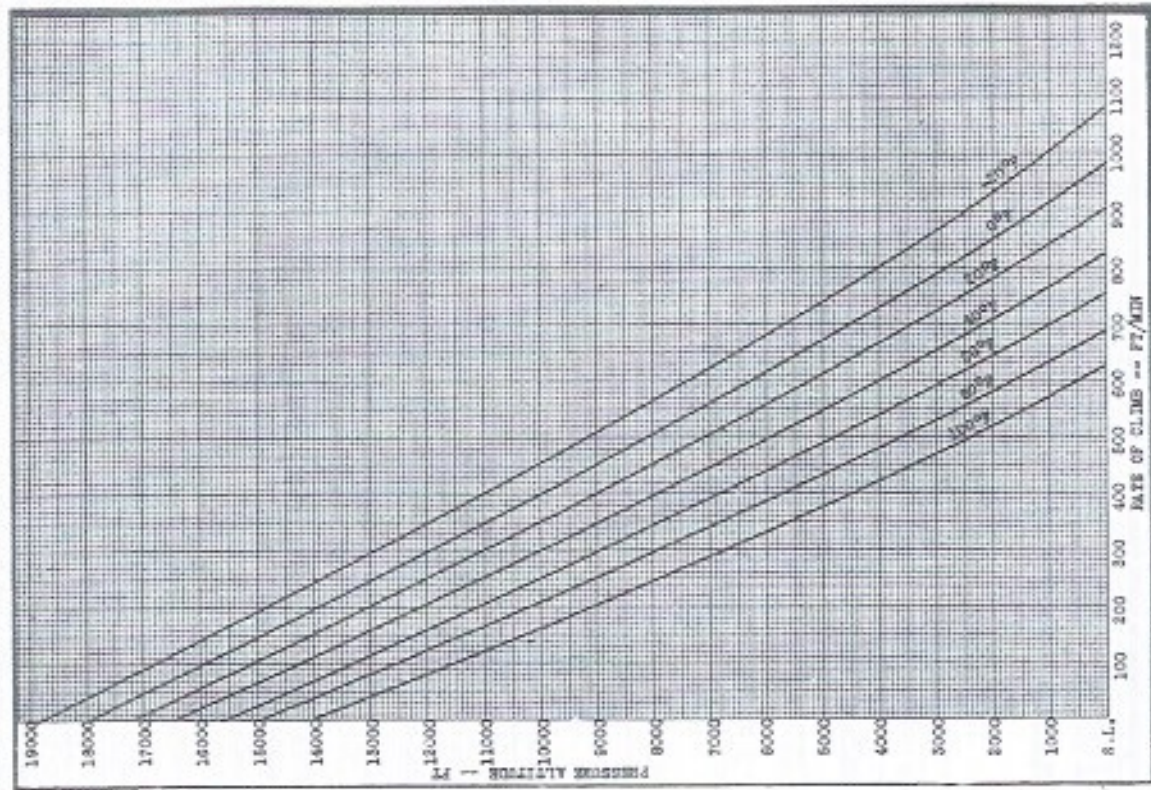

Figure 14 - Rate of Climb
41. Climbing characteristics of the airplane at various altitudes and temperatures are shown on Figure 14. The data from which these curves were derived was obtained during flight tests conducted under the following conditions: